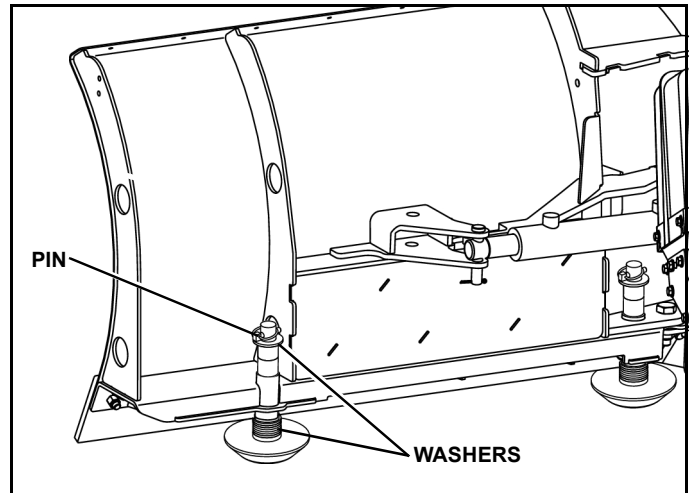

Figure 2-8
4. Adjust shoe assemblies by removing shoe mounting lynch pin and adding or subtracting washers on the top or bottom of the shoe-mounting bracket (See Figure 2-8).